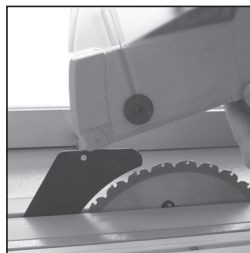

FIG. 8
- Offer the Blade Guard up and onto the riving knife ensuring that the hole through the Blade Guard assembly lines up with the hole in the riving knife. **(Fig. 8)**